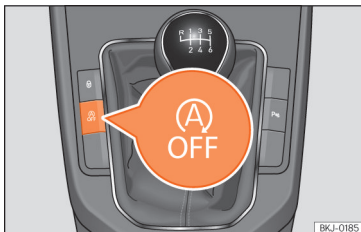

Fig. 212 Centre console: Start-stop system button.
- To manually switch on/off the Start-Stop system, press the  button »» Fig. 212.